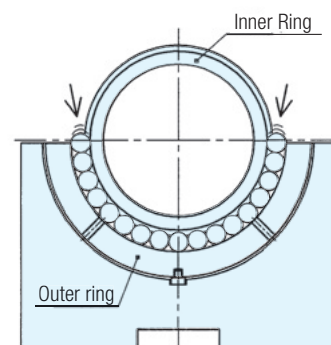
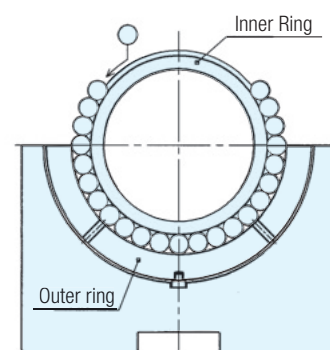

Fig. 17 Rollers Movement Check
Fig. 18 Installation of Rollers for Upper Half of Bearing
- (2) After rollers have been inserted for the lower half of the bearing, press the rollers on both ends to make sure that the rollers move lightly (see Fig. 17).
- (3) After checking that the rollers move smoothly, jack up the lower housing until the rollers do not move. This eliminates the clearance for the lower half of the bearing.
- (4) As the next step, pile up the remaining rollers for the upper half of the bearing on the raceway surface of the inner ring (see Fig. 18).